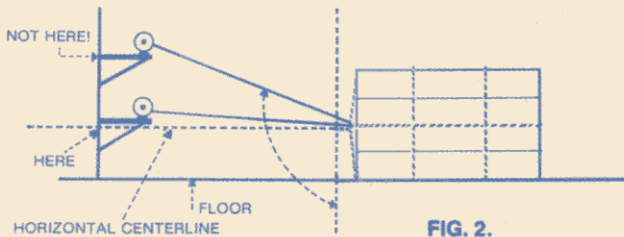

FIG. 2.
3. Mount the winch as low as possible so the pull will be as close to horizontal as conditions will allow (figure 2).